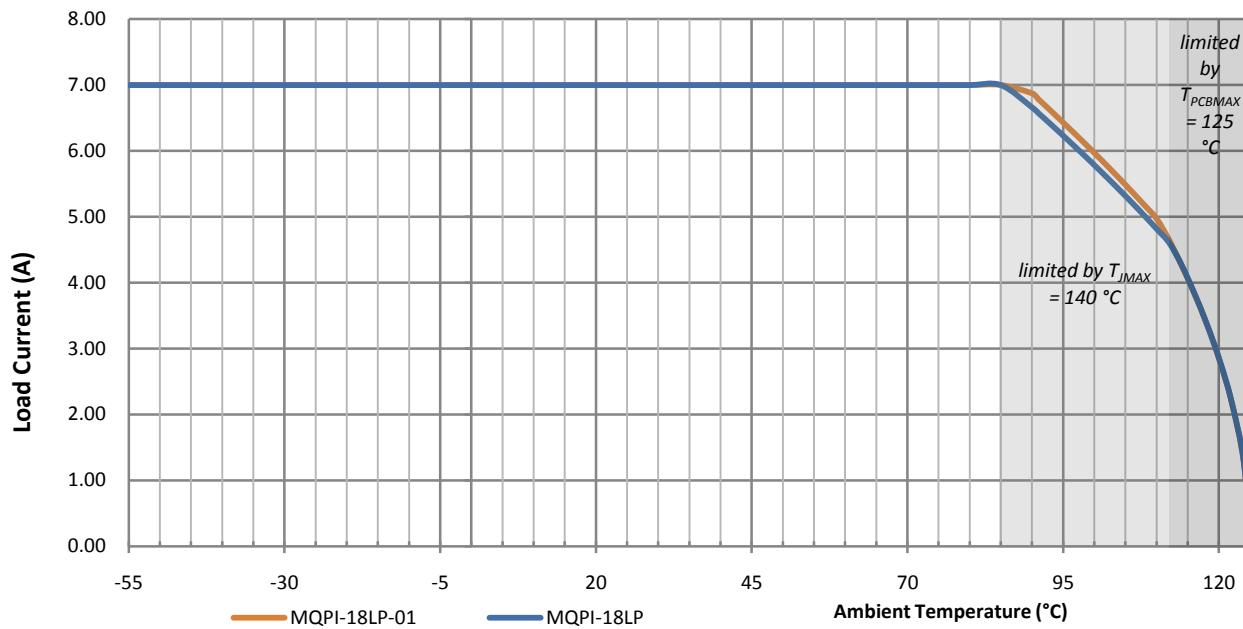

Figure 5 - Current de-rating over ambient temperature range.
- -55° to +125°C PCB temperature (see Figure 5)
Note 2: See Figure 5 for the current de-rating curve.